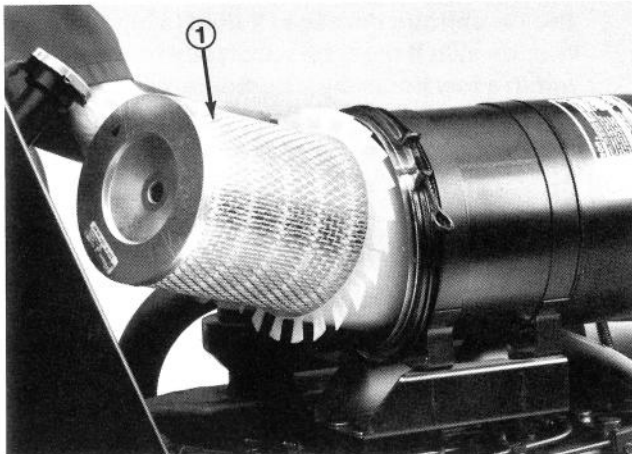

Figure 45
3. Remove wing nut w/gasket and slide filter element out of air cleaner body (Fig. 45).
1. Place drain pan under reservoir. In turn, remove all three (3) drain plugs and let oil drain into pan (Fig. 45).